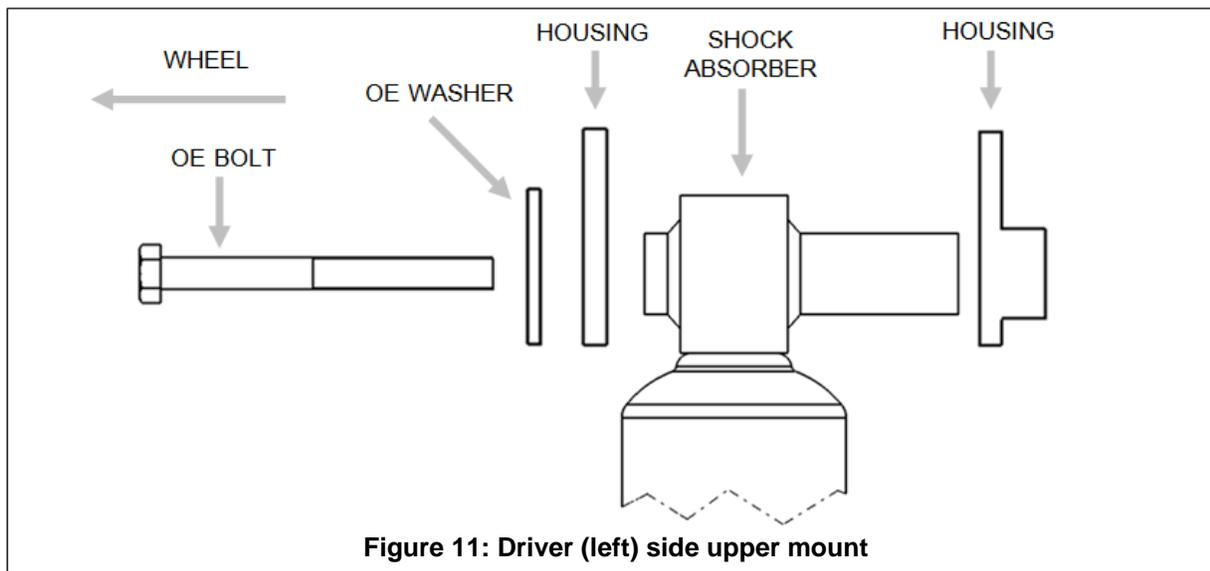

Figure 11: Driver (left) side upper mount
- P. Install the shock in the original location with the top mount offset away from the vehicle as shown in Figure 11.